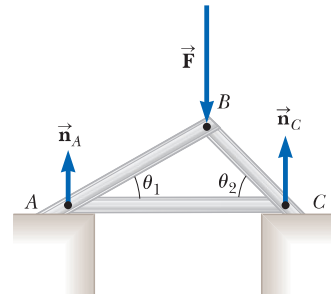

Figure P12.54
54. Figure P12.54 shows a light truss formed from three struts lying in a plane and joined by three smooth hinge pins at their ends. The truss supports a downward force of $\vec{F} = 1000$ N applied at the point B . The truss has negligible weight. The piers at A and C